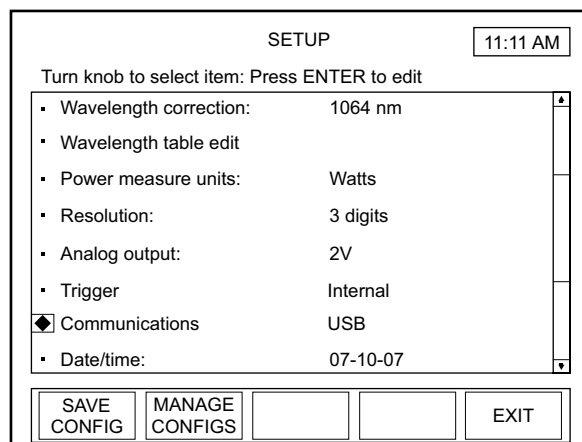

Figure 4-42. SETUP: Communications
1. On the main SETUP screen, turn the Selection knob to move the diamond indicator to Communications (Figure 4-42).